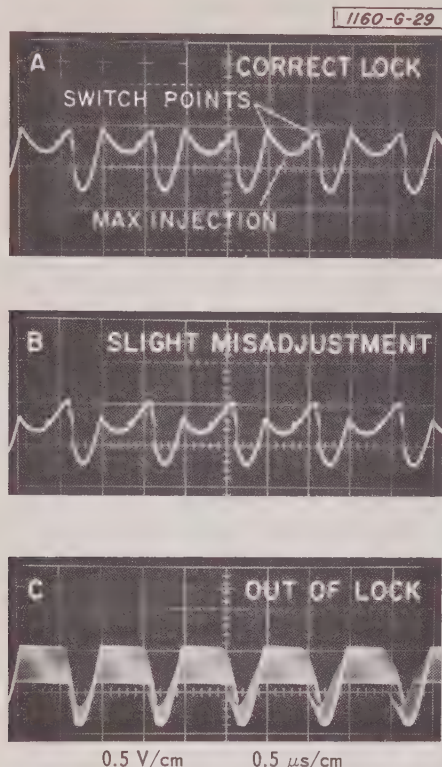

Figure DC-6. Injection-Locked Oscillator adjustment waveforms shown at TP101 (see Figure DC-4).
The resulting pulse is amplified in Q105 and another self-resonant choke, L108, shortens the spike further. This spike triggers the monostable blocking oscillator Q106/T102, and the blocking oscillator cycles once for each pulse received from Q105. The amplitude of the blocking oscillator is controlled by R128. Waveforms of these various parts of the circuit can be seen in Figure DC-6.
If necessary, adjust L106 to make the switching points equal in amplitude. Adjust T204 to maximize the injected signal to Q103 and Q104, as in Figure DC-6 (A). Figures DC-6 (B) and (C) show the oscillator out of adjustment.